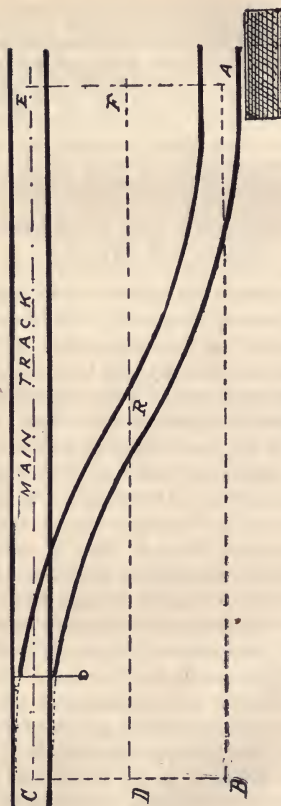

FIG. 22.
18. The simplest and most economical method for laying out a side track, along which buildings are located, is to continue the *lead curve* back of the frog to a point which would be midway between the tracks if they paralleled each other. Then reverse the curve and join it with the tangent on side track at a point the same distance from reversing point as the switch point is in the opposite direction, as shown in Fig. 22.
RULE:—When laying out the side track parallel with the main track, continue setting center stakes as if for a tangent from A to B, Fig. 22, making the latter point come at right angles with C, which is the point of switch already located in main track.